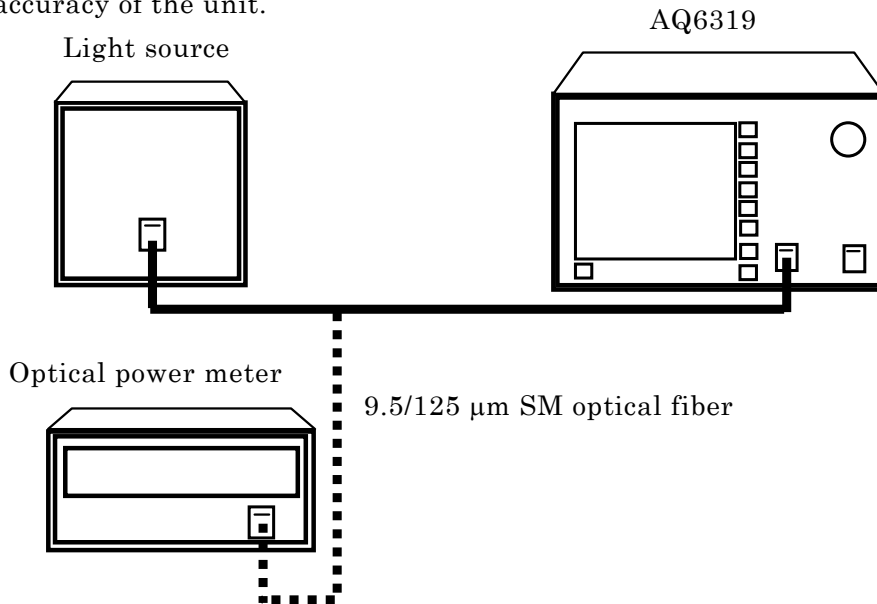

Figure 9-2: Measurement system for checking level accuracy
Use the measurement system as shown in Figure 9-2 to check the wavelength accuracy of the unit.
① Set up the measurement system as shown in Figure 9-2 to measure spectrums of the light source.